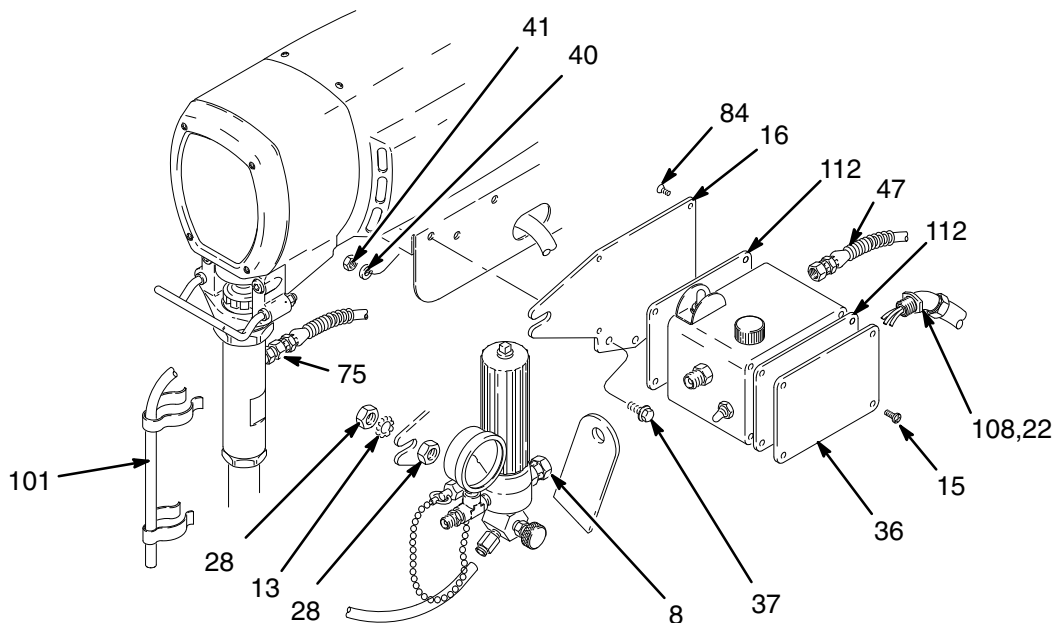

Fig. 21
**NOTE:** Refer to Fig. 21 except where noted.